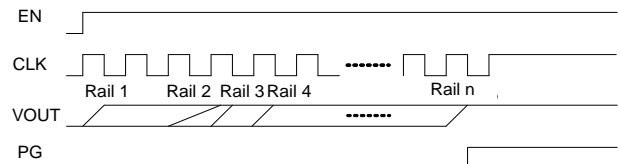
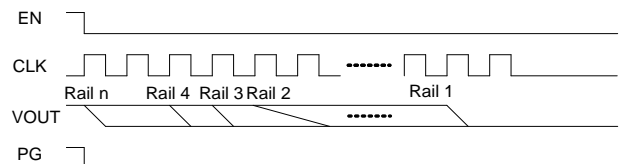

Figure 7: Soft Start when CLK Does Not Pull Down (Not Pausing)
Figure 8 Soft Shutdown when CLK Does Not Pull Down (Not Pausing)
- If CLK_PAUSE_EN = 0, the master/slave PMIC does not pull the CLK pin down during the soft start/stop of any power rails. Figure 7 shows soft start when CLK does not pull down. Figure 8 shows soft shutdown when CLK does not pull down.